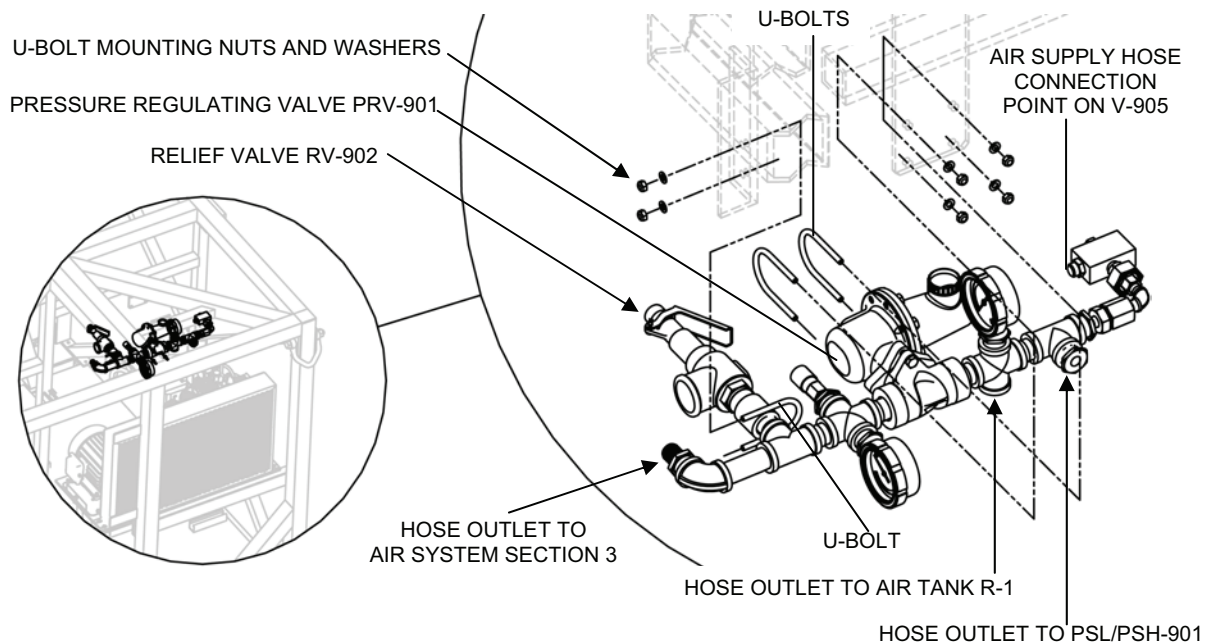

Figure 6. Air System Section 1 Assembly.
2. Remove the Air System Section 1 assembly as follows (see Figure 6):
3. Install the new Air System Section 1 assembly onto the TWPS as follows (see Figure 6):
5. Make sure the position of Pressure Maintaining Valve V-905 matches Figure 6 (Air System Section 1 Assembly).